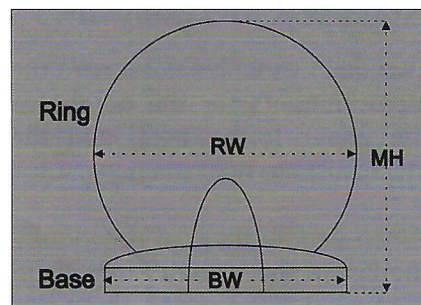

Fig 1: Ring Mechanism End View
Ring mechanisms are composed of two parts, the base and the rings. Typically, the rings are wider than the base, but not always. **Figure 1** shows the end view of a ring mechanism and indicates the ring width (RW), the base width (BW), and the mechanism's height (MH). There is also the additional dimension of the mechanism's length (ML). Thus, the mechanism's dimensions are MW x ML x MH, where MW = Maximum (RW, BW). [**Fig 1**]